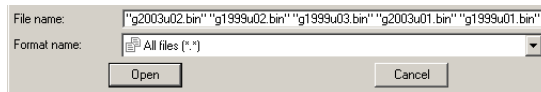

Figure 3-17. Open window
- Select the desired \*.bin file in **Open** dialog box and click **Open** (Figure 3-17).